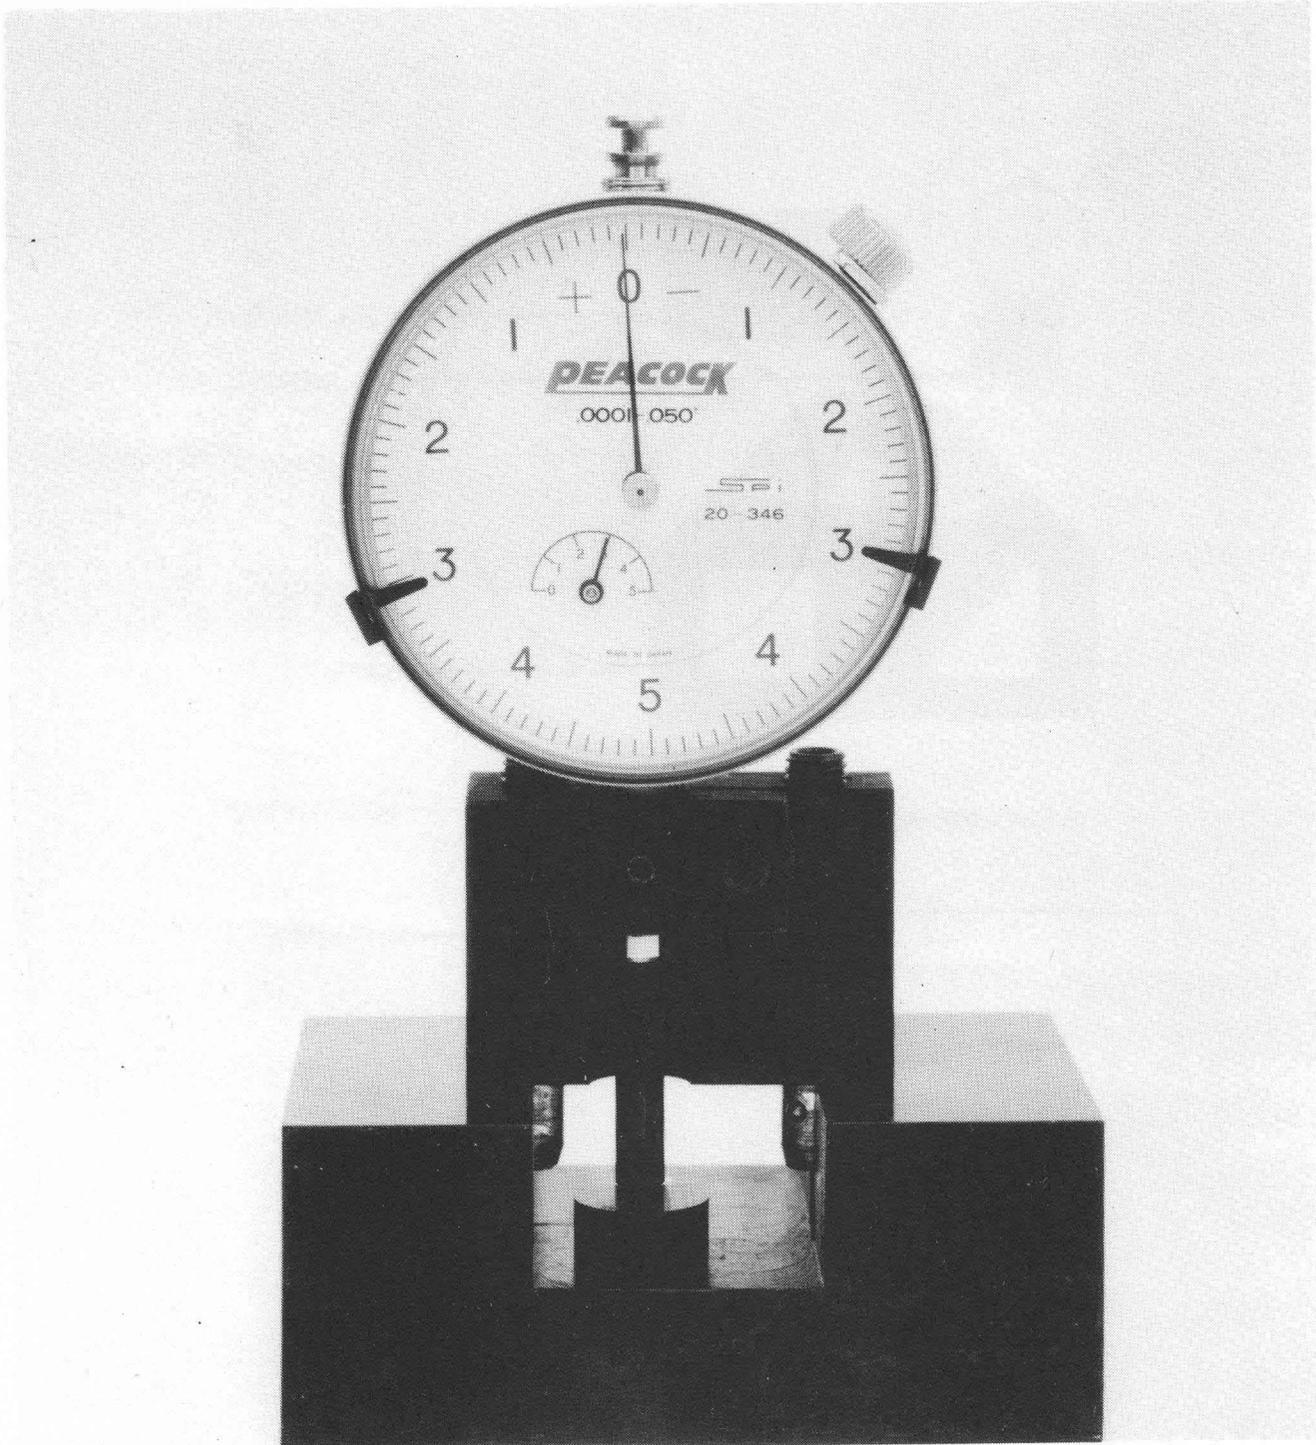

FIGURE 39. DIAL INDICATOR
- b. Set up the penetration dial indicator on the penetration tool master. Check penetration tool to make sure it's indicating surfaces are clean and properly set; (long hand on zero and small hand on three) while it's resting on the penetration tool master. See Figure 39.